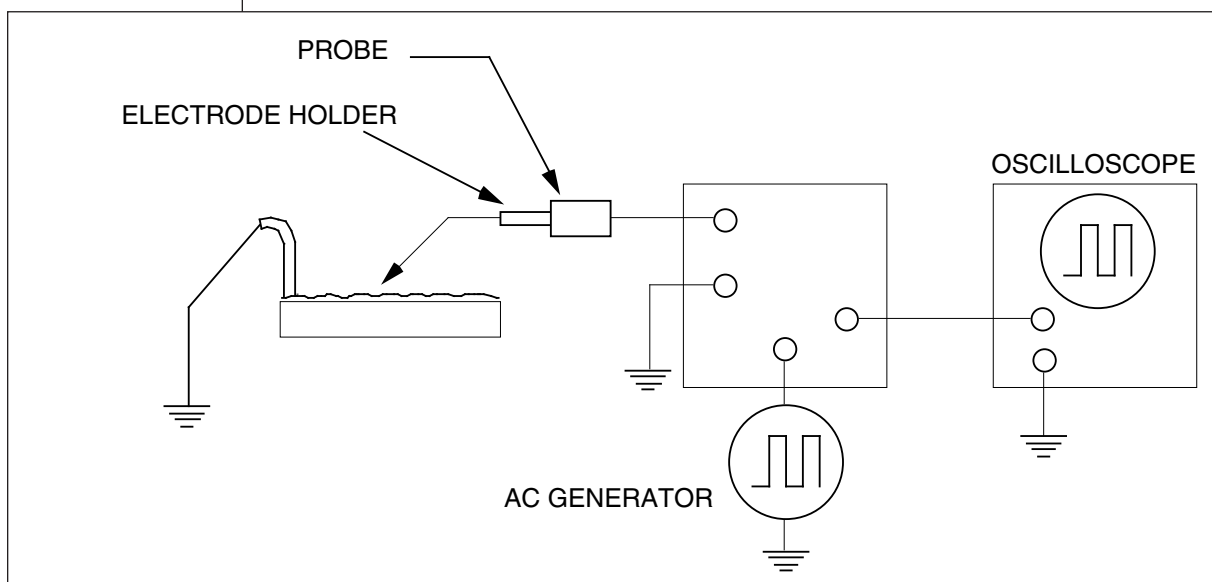

Figure 2
2. WPI Model **773**. This microprobe system can easily perform the resistance measurement using the STIMULUS INPUT feature. The X1 output sensitivity will be 1 mV per MW of electrode resistance per 20 mV of drive at the STIMULUS INPUT. It is suggested that a 22.5 Hz square wave be used. The X1 output would be viewed on an oscilloscope. Capacitive neutralization can be used if desired. Figure 2 illustrates the instrument interconnections required.